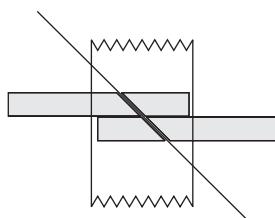

Fig. 11: 45° cuts of belt ends
Step 71: To become familiar with the glueing technique, first practice with a piece of the 4 mm round belt. Cut the ends of the belt at identical 45° angles, in order to increase the glueing surface. To do this, lay the ends, facing one another, on your cutting surface, overlapping about 1 cm and directly side by side. Secure them in place with a piece of sellotape (see fig. 11). Now position a set square or ruler on the belt at a 45° angle, push it down to hold the ends in place and then cut through them with a sharp knife. Remove the tape. You should now have two identical oval cuts at the ends. Roughen the surface up very gently with fine sandpaper and do not touch the cutting surfaces with your fingers.